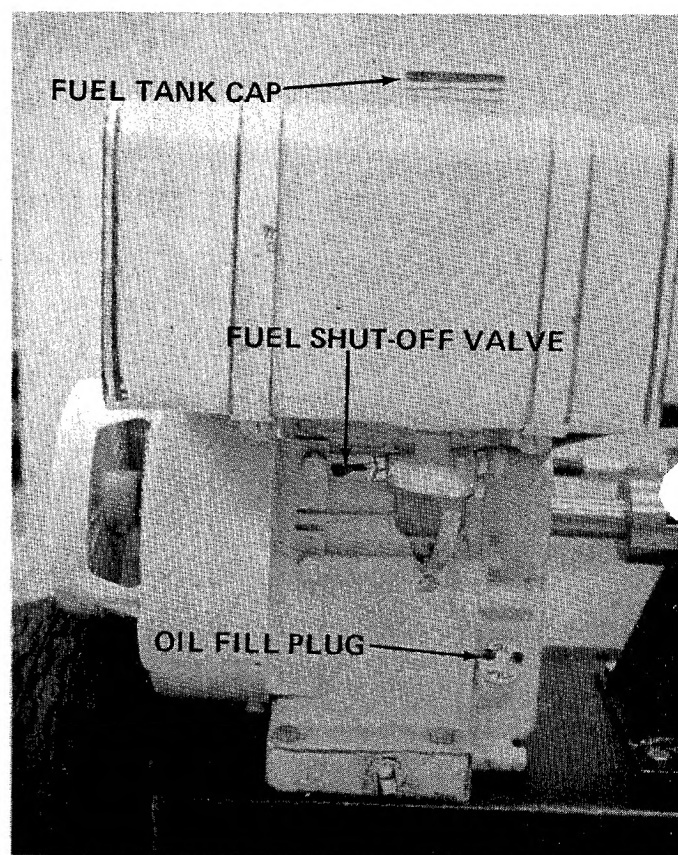

FIGURE 15
2. Fill fuel tank with one gallon of regular grade gasoline. See figure 15.
3. Engine will require 2-3/4 pints of SAE 30 or 10W30 oil. Remove fill plug. See figure 15.
4. Open fuel shut-off valve. See figure 15.